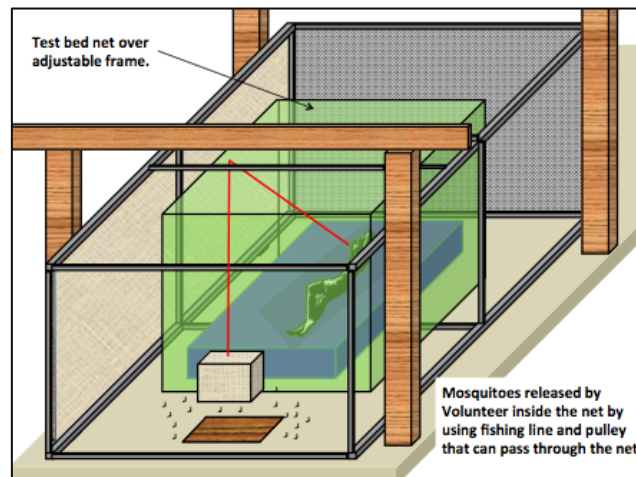

Figure 1: Mosquitoes released by Volunteer inside the net (© Courtesy of Jason Moore, IHI)
- 4.9 The supervisor will attach the mosquito cage to the nylon rope suspended over a lever such that when volunteers pull the rope from inside the sleeping space, mosquitoes will be released freely (**Figure 1**).